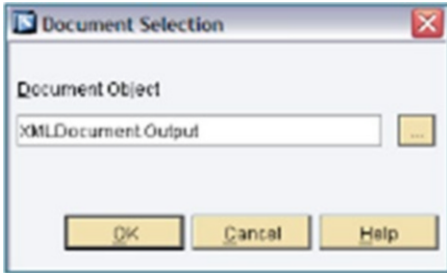

Figure 6-58. Row action block configuration
- *Row action block*: Adds data rows as <Row> elements and their children in a XML document defined by the Document action block. See Figure 6-58.